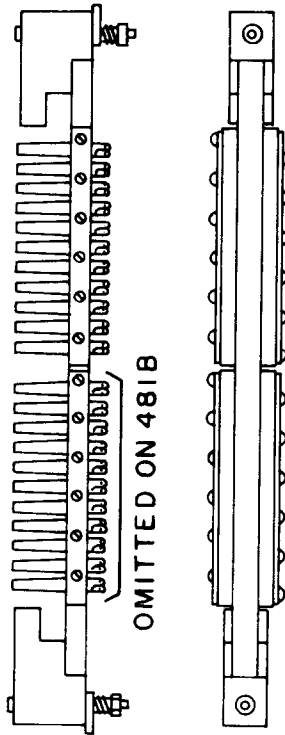

Fig. 12—481A or B Jack
**2.07 481A and B:** These multicontact jacks (Fig. 12) are designed for flexible mounting. They are used in the reader for the Automatic Message Accounting Systems and Accounting Center 1. These jacks are provided with guide holes for locating pins on the plug portion of the readers and for lining up the contact springs of the jacks with the contacts of